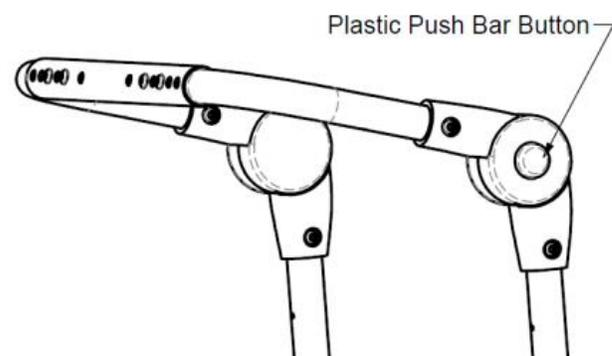

Figure 15.25: Adjustable push bar handle
1. To adjust the push bar angle, simultaneously press both plastic push bar buttons located on the top of both backrest posts (see Figure 15.25).